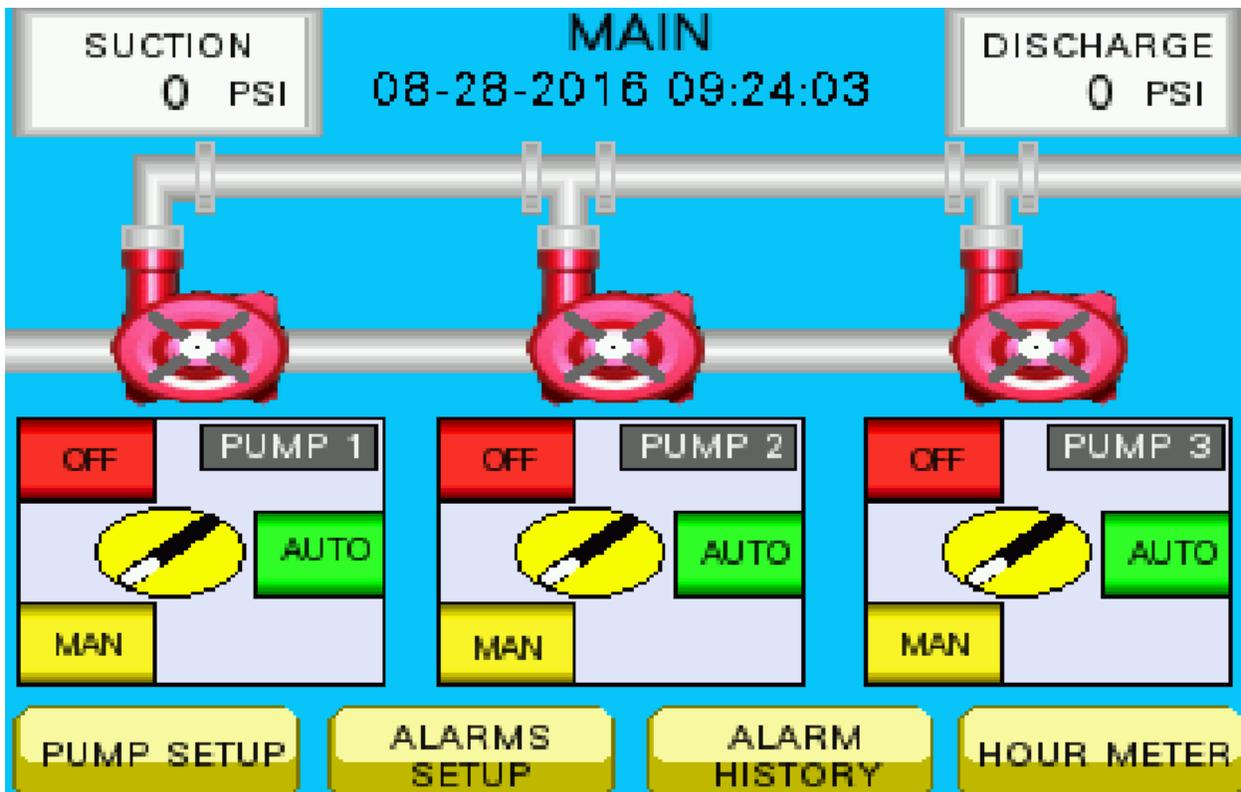
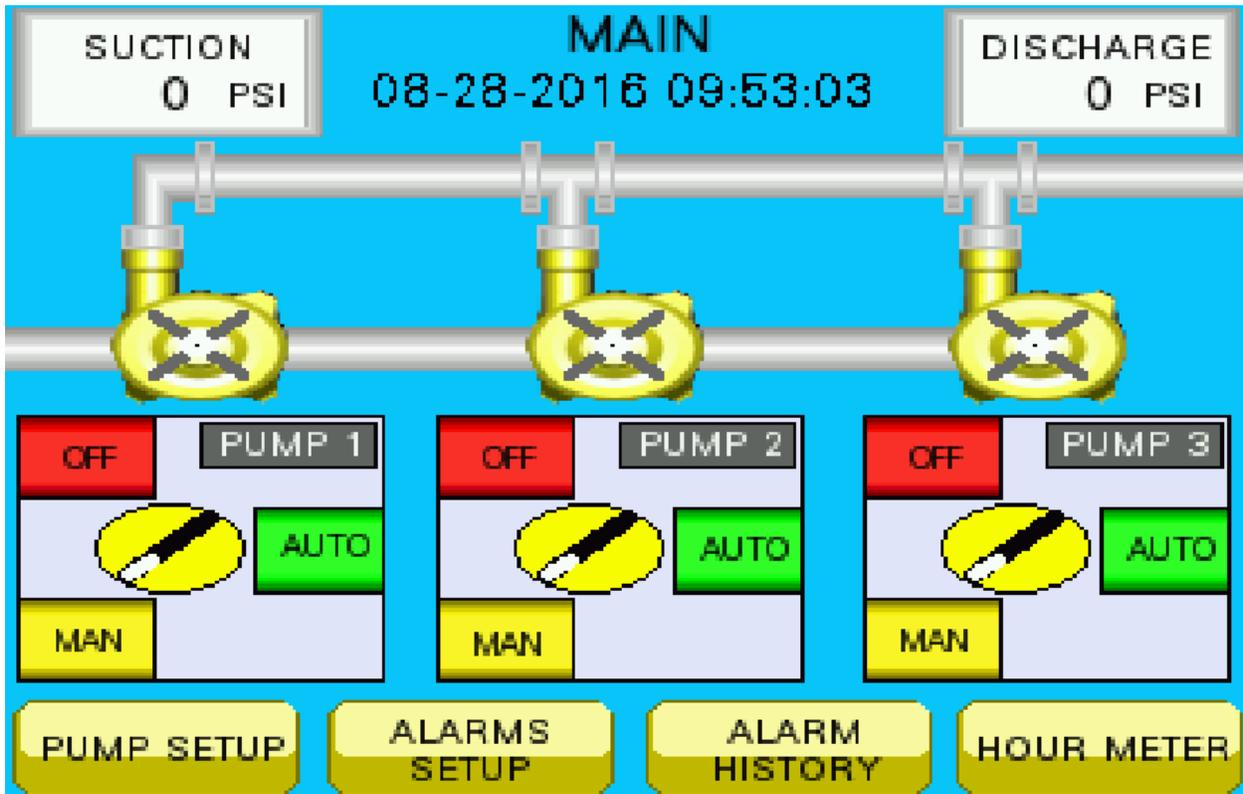

Figure 3.0
Figure 3.1
1. The system is in manual after the correct system and alarm pressures have been set by the user and the HOA switches are placed in manual. When the HOA is in manual the selector switch will be yellow in color and pointing at the MAN button. If the system is in manual and the pump is not running the pump will appear red and the impeller will not be rotating like figure 3.0 below. If the system is in manual and the pump is running the pump will appear yellow with a rotating impeller like figure 3.1 below.